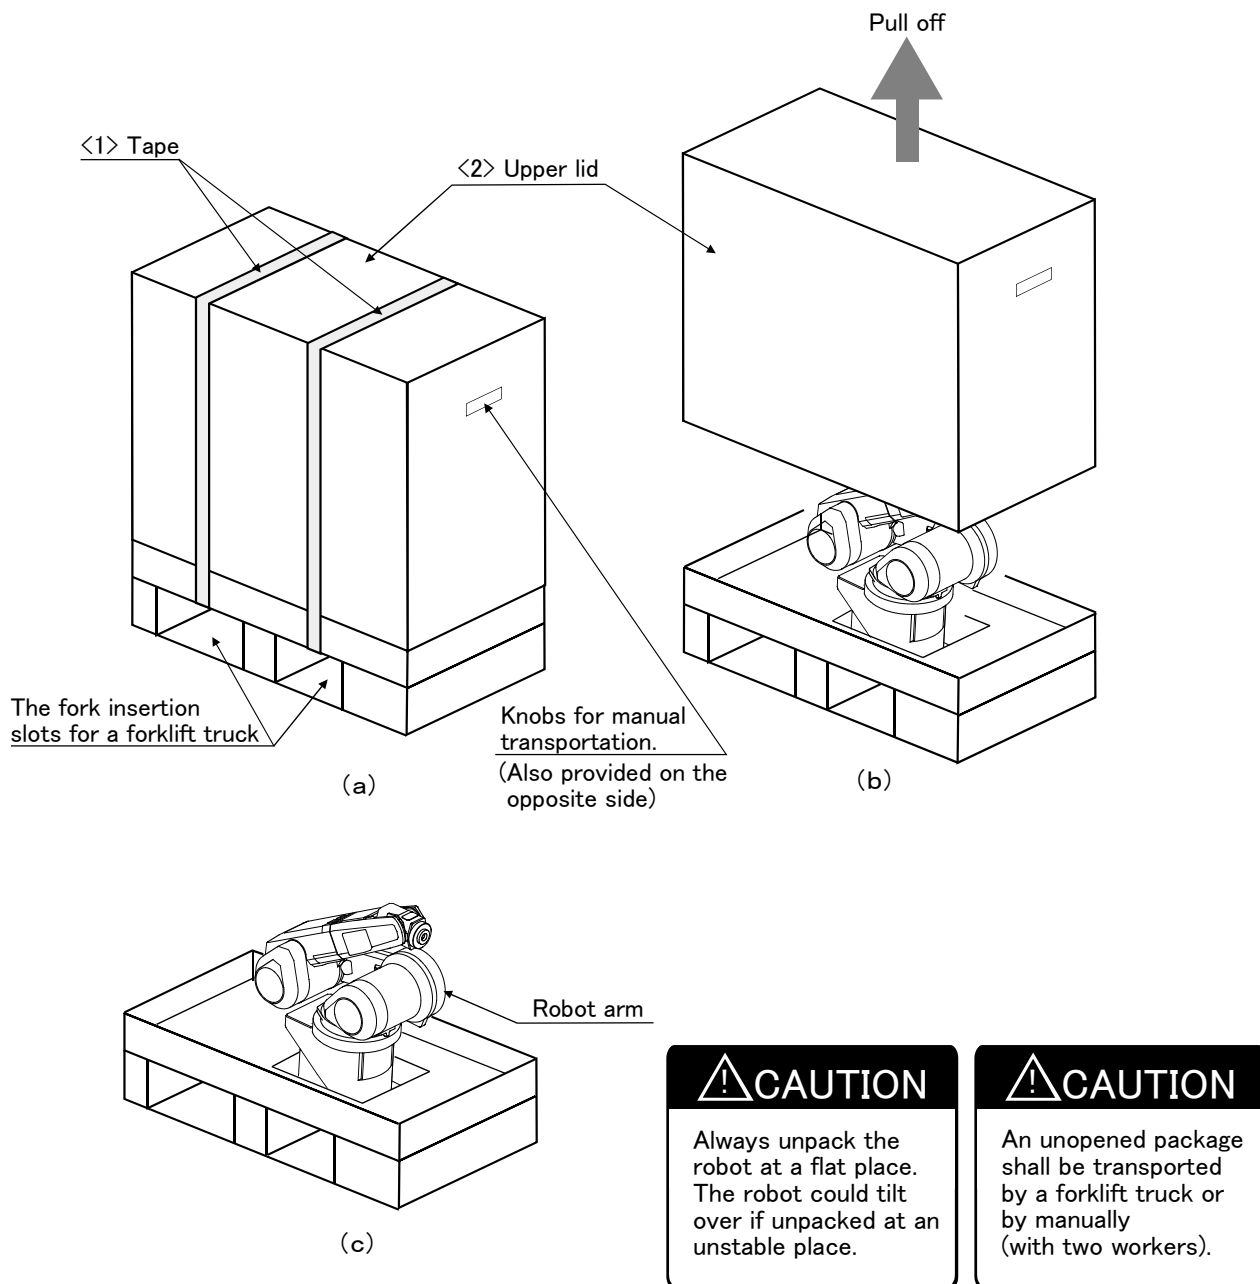

Fig.2-1 : Unpacking the robot arm
The robot is shipped from the factory in cardboard and plywood frame packing. Always refer to Fig. 2-1 and unpack the robot. Handle the robot arm according to "2.2.2 Transportation procedures\(Transportation by people\)". The unpacking process is shown below.
- 1) Using a knife, etc., slit the tape <1> fixing the upper lid <2> of the cardboard box. (Fig. 2-1 \(a\))
- 2) Pull the upper lid <2> of the cardboard box off with both hands. (Fig. 2-1 \(b\))
- 3) Remove the hexagon socket bolts <3> (four positions) connecting the sleeper and the base unit. (Fig. 2-1 \(c\))